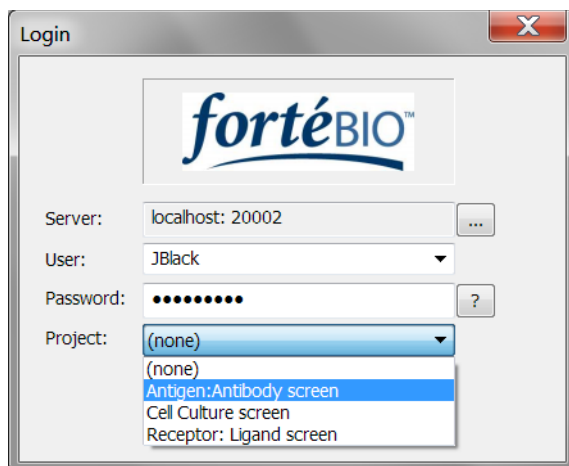

Figure 3-9: Project Selection
5. Optional. Select a project from the **Project** drop-down list (Figure 3-9). (For the first time logging in, leave as **(none)**.)